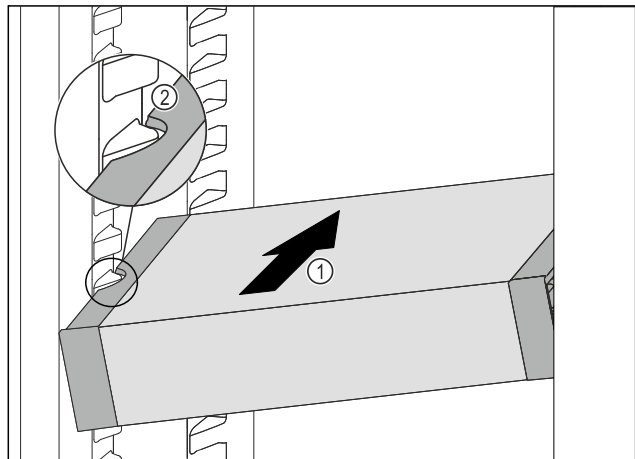

Fig. 147
- ▶ Insert the VarioSafe into the fridge section at an angle Fig. 147 (1) until the recesses in the side Fig. 147 (2) of the VarioSafe are at the level of the support rib in the fridge section.